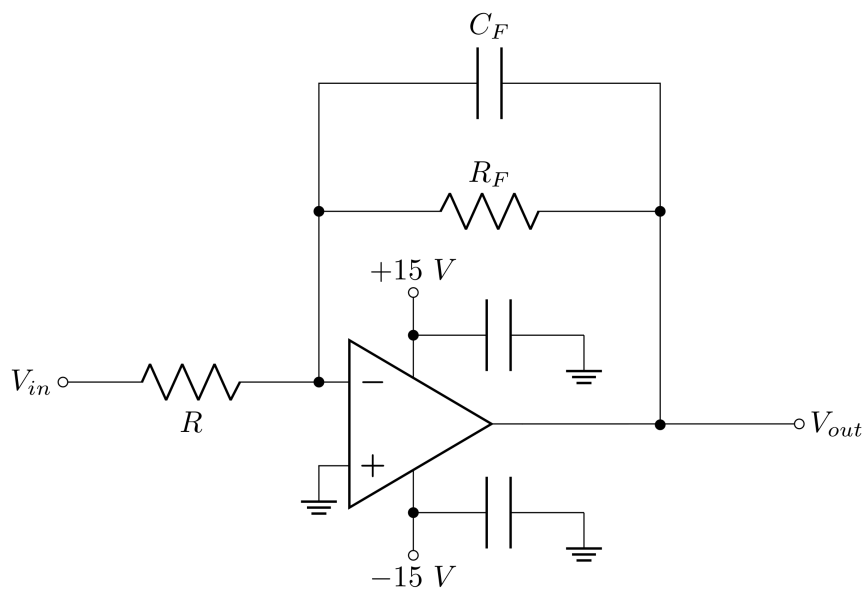

Figure 8: Inverting amplifier circuit
1. We will first build the amplifier in a normal voltage amplifier configuration to test the setup and all the connections. Build the inverting amplifier circuit shown in Figure 8. Use a value for $R_F = R$ close to what you found in 8.2, and a 10 pF capacitor C_F in parallel with the feedback resistor to avoid spontaneous oscillations. Draw the schematic in your lab notebook and record the values of the components.